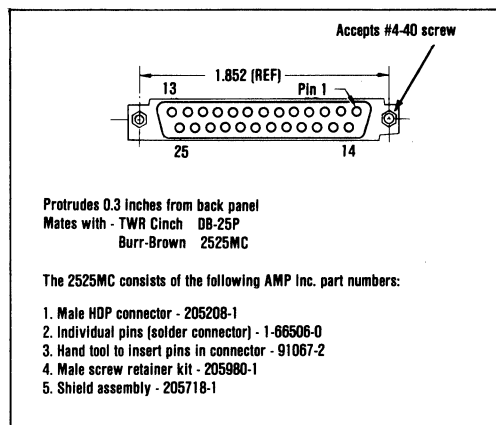

FIGURE 7. 25-Pin D Style Connector P1 Back Panel View.
Connector wiring for P1 (see Figure 7) may be accomplished with the aid of Tables V, VI, and VII. It is only necessary to connect +5V power, supply return, data transmit (TX), data receive (RX), and signal return to